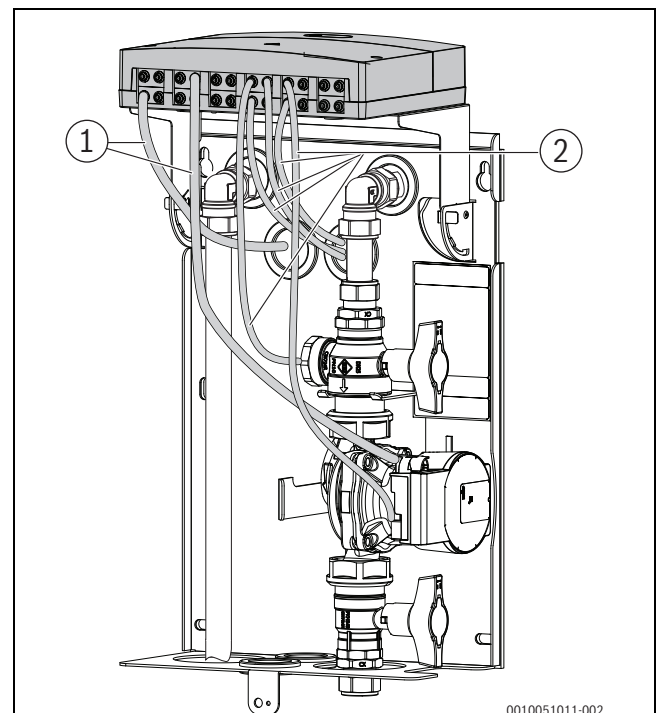

Fig. 26 Route cables through the wall at the rear (thermal insulation not shown, hydraulic pipework according to option 1)
- ▶ Route the electrical power cables through the sealing grommets in the back panel of the enclosure and the wall holes (→ Fig. 26).